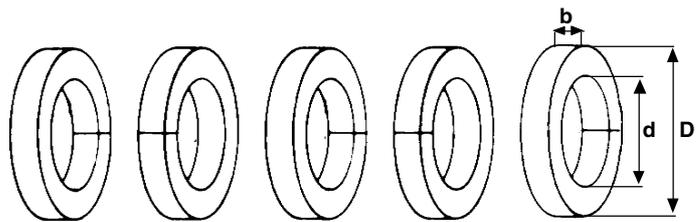

Fig.12
7. The gland follower should move easily into the stuffing box. Push in the rings using the follower and stagger the joints half a turn as in Fig. 12. Do not put in too many rings. The gland follower should have a guiding depth of 3-5 mm into the stuffing box. Ensure that the follower is at right angles to the shaft. An unevenly tightened gland follower may cut into the shaft sleeve.